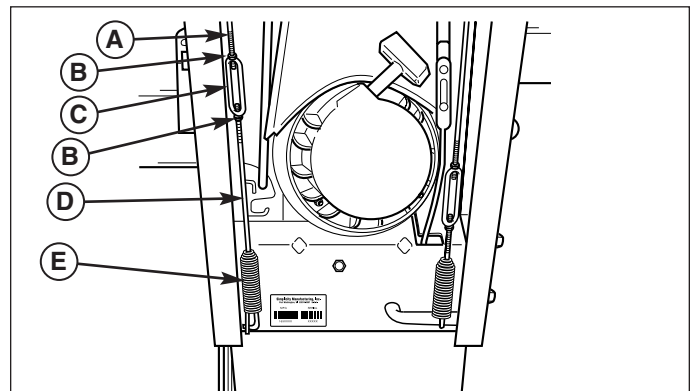

Figure 16. Drive Tension Adjustment
1. With the drive lever engaged, bottom end of lower rod (D, Figure 16) should be flush with bottom of spring (E).
2. To adjust, loosen the two nuts, (B) and hold the lower rod to keep from rotating. Turn the turnbuckle (C) toward the right to lower rod or toward the left to raise rod.